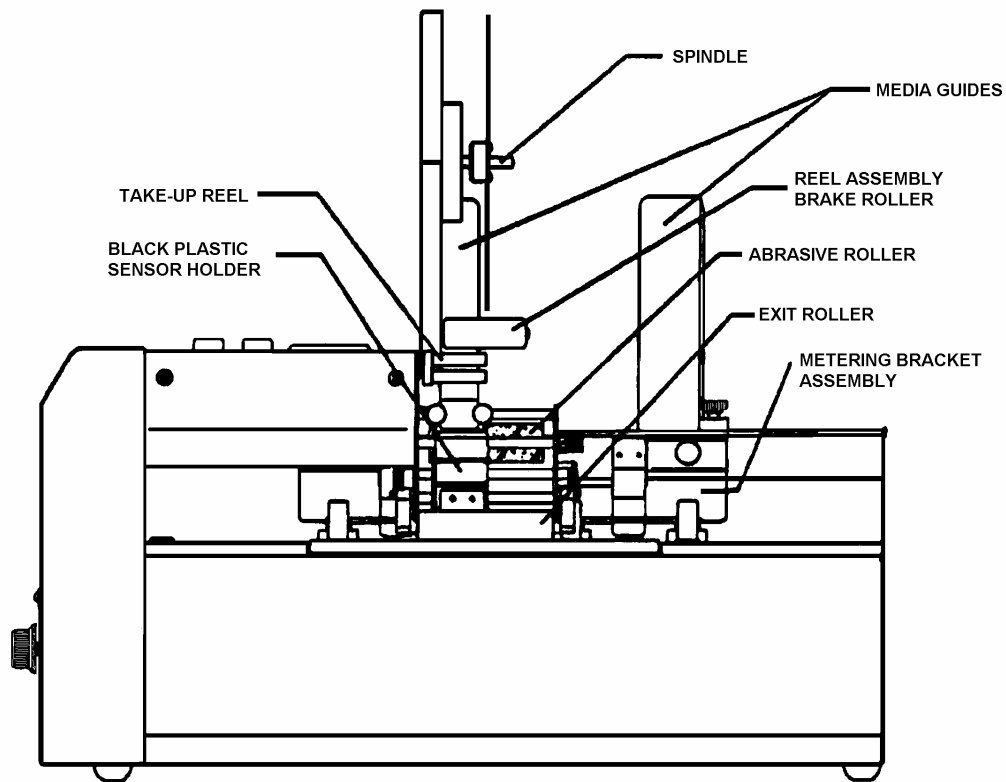

Figure 2A
3. Slide MEDIA GUIDES (Fig. 2A) into place.